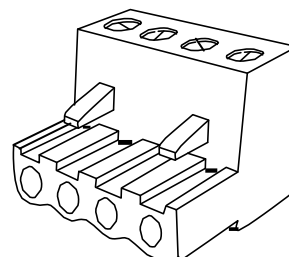

Fig. 12: Loop Wire Connector
- 1 Wire the loop wires into their connectors. Refer to Fig. 12.